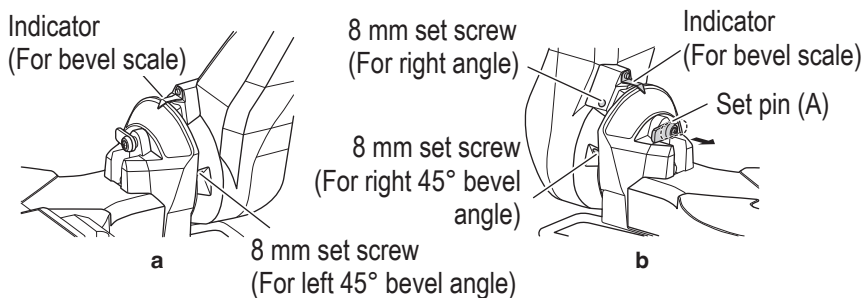

Fig. 15
When changing the adjustment, change the height of the 8 mm set screws by turning them. (Fig. 15-a, Fig. 15-b)
To change the bevel angle to the right at 45°, move the sub fence (A) outward and loosen the bevel lock handle, then pull out the set pin (A) toward the front, and tilt the motor head to the right. (Fig. 15-b)
When adjusting the motor head to 0°, always return the set pin (A) to its initial position as shown in **Fig. 15-b**.